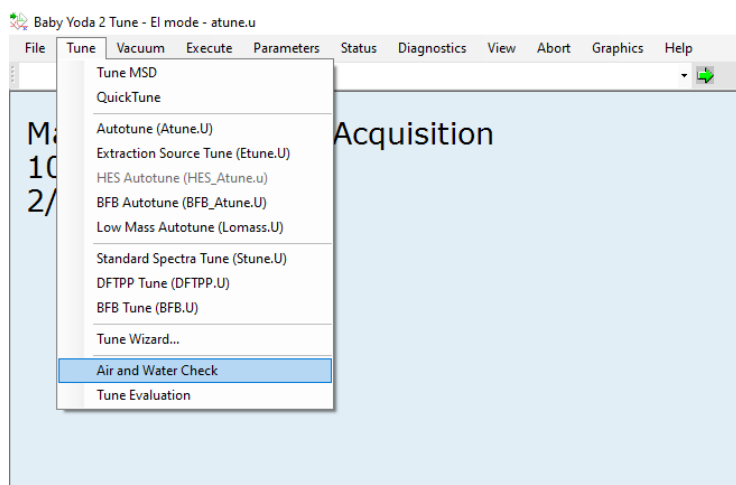

Figure 21. Selecting Air and Water Check.
6. In the **Tune and Vacuum Control** screen, click **Tune > Air and Water Check** from the drop-down menu (Figure 21). The system will automatically initiate the air/water check and print out a report at the conclusion of the check.